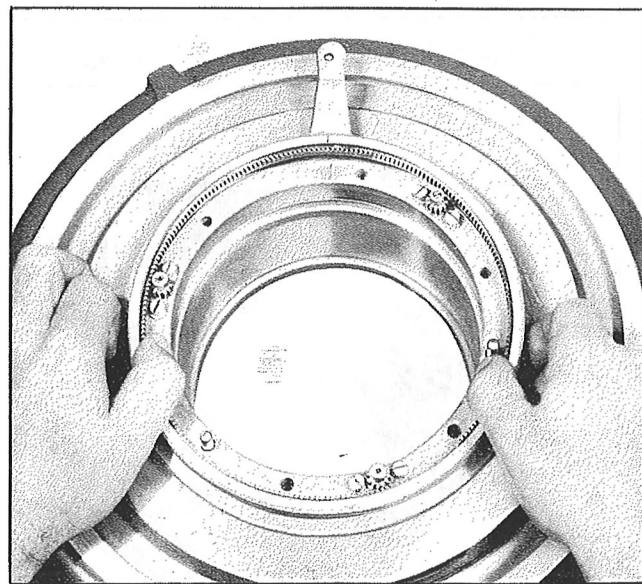

Figure 190—Control Lever Installation, Models A632S-A1, -A2
g. After the control screws are correctly set in accordance with the above steps and the control ring is held firmly against the regulator gear flange, check by installing the control lever over the pinion gears so that the index tooth of the control lever coincides with the index mark on the adapter ring. See Figure 190. If the teeth of the control lever mesh freely with the